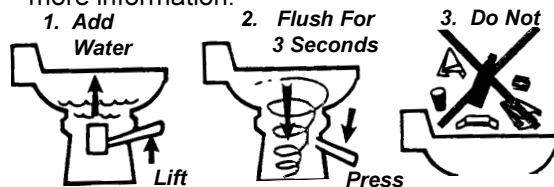

Figure J7: Vacu-flush™ Operations
1. To add water to the toilet before using, raise flush lever until desired water level is reached. Generally, more water is required only when flushing solids. See Figures J7 & J8.